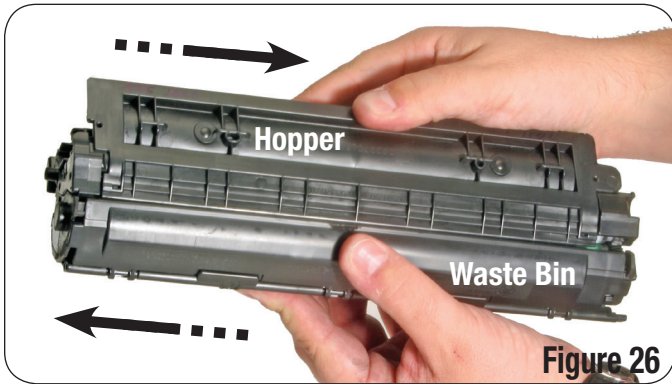

Figure 26
28. Position the cartridge with the hopper facing upward and grasping tightly, slide the waste bin section and hopper side apart, as shown in Figure 26.